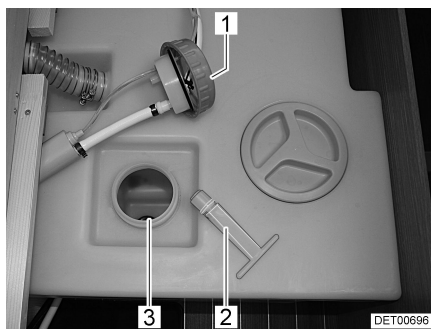

Fig. 69 Water tank
- Unscrew the cap (Fig. 69,1) with water pump from the water tank.
- Remove the stopper (Fig. 69,2) from the drainage opening (Fig. 69,3). The water will drain.